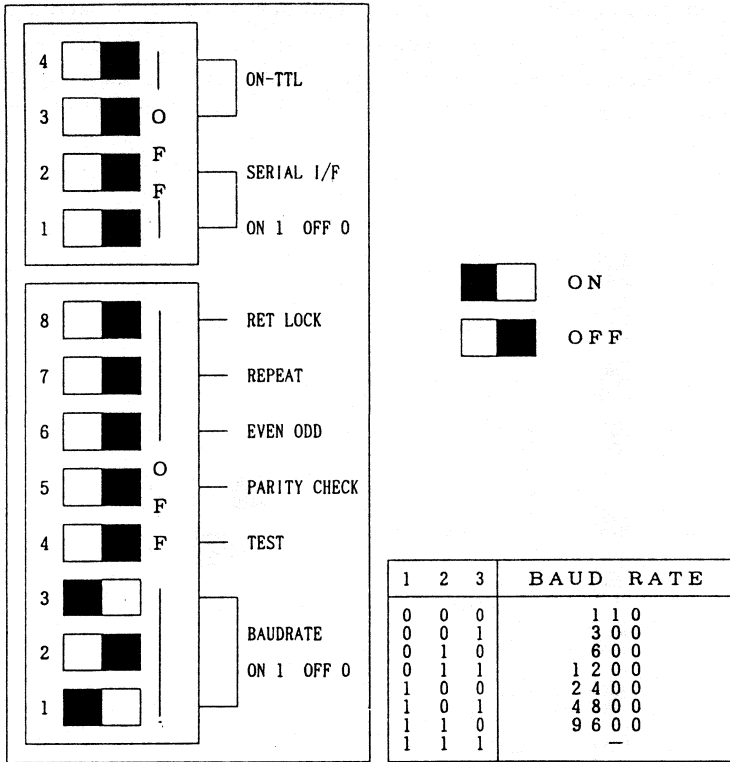

Fig. 3-2 Configuration of PG-1000 DIP Switch      Table 3-1 PG-1000 Baud Rate Setting
- (2) When using the PG-1000, set the DIP switch located at the bottom of the PG-1000 according to Fig. 3-2. The baud rate should be set to the same setting as the IE controller module.
- In Fig. 3-2, 1 indicates ON, and 0 indicates OFF.